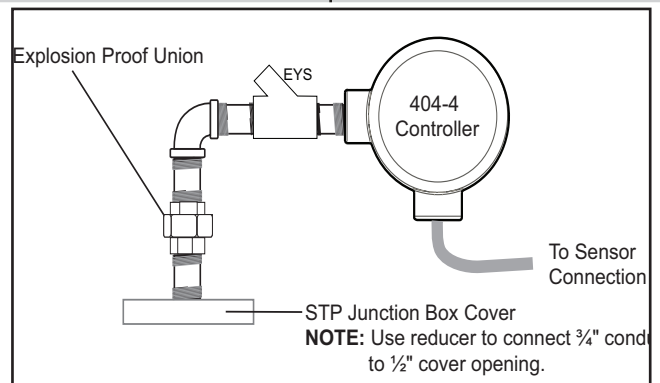

Figure 3: Typical Connection to STP
A typical means of connecting the controller to an STP via an explosion proof union is shown in Figure 3. All fittings must be UL listed and suitable for use in a Class I, Div 1, Group D environment.
- Join the controller conduit to the STP junction box cover and replace the cover on the STP and securely tighten. A union will be required to do this, (see Figure 3). A conduit seal must be installed between the electrical junction box and the controller. The conduit seal must be within 18" of the electrical junction box and the 404-4 controller. Multiple conduit seals may be required for some installations, depending upon the distance between the electrical junction box and the 404-4 controller. Refer to NEC NFPA 70, article 501.15 (A) (3), 2011.